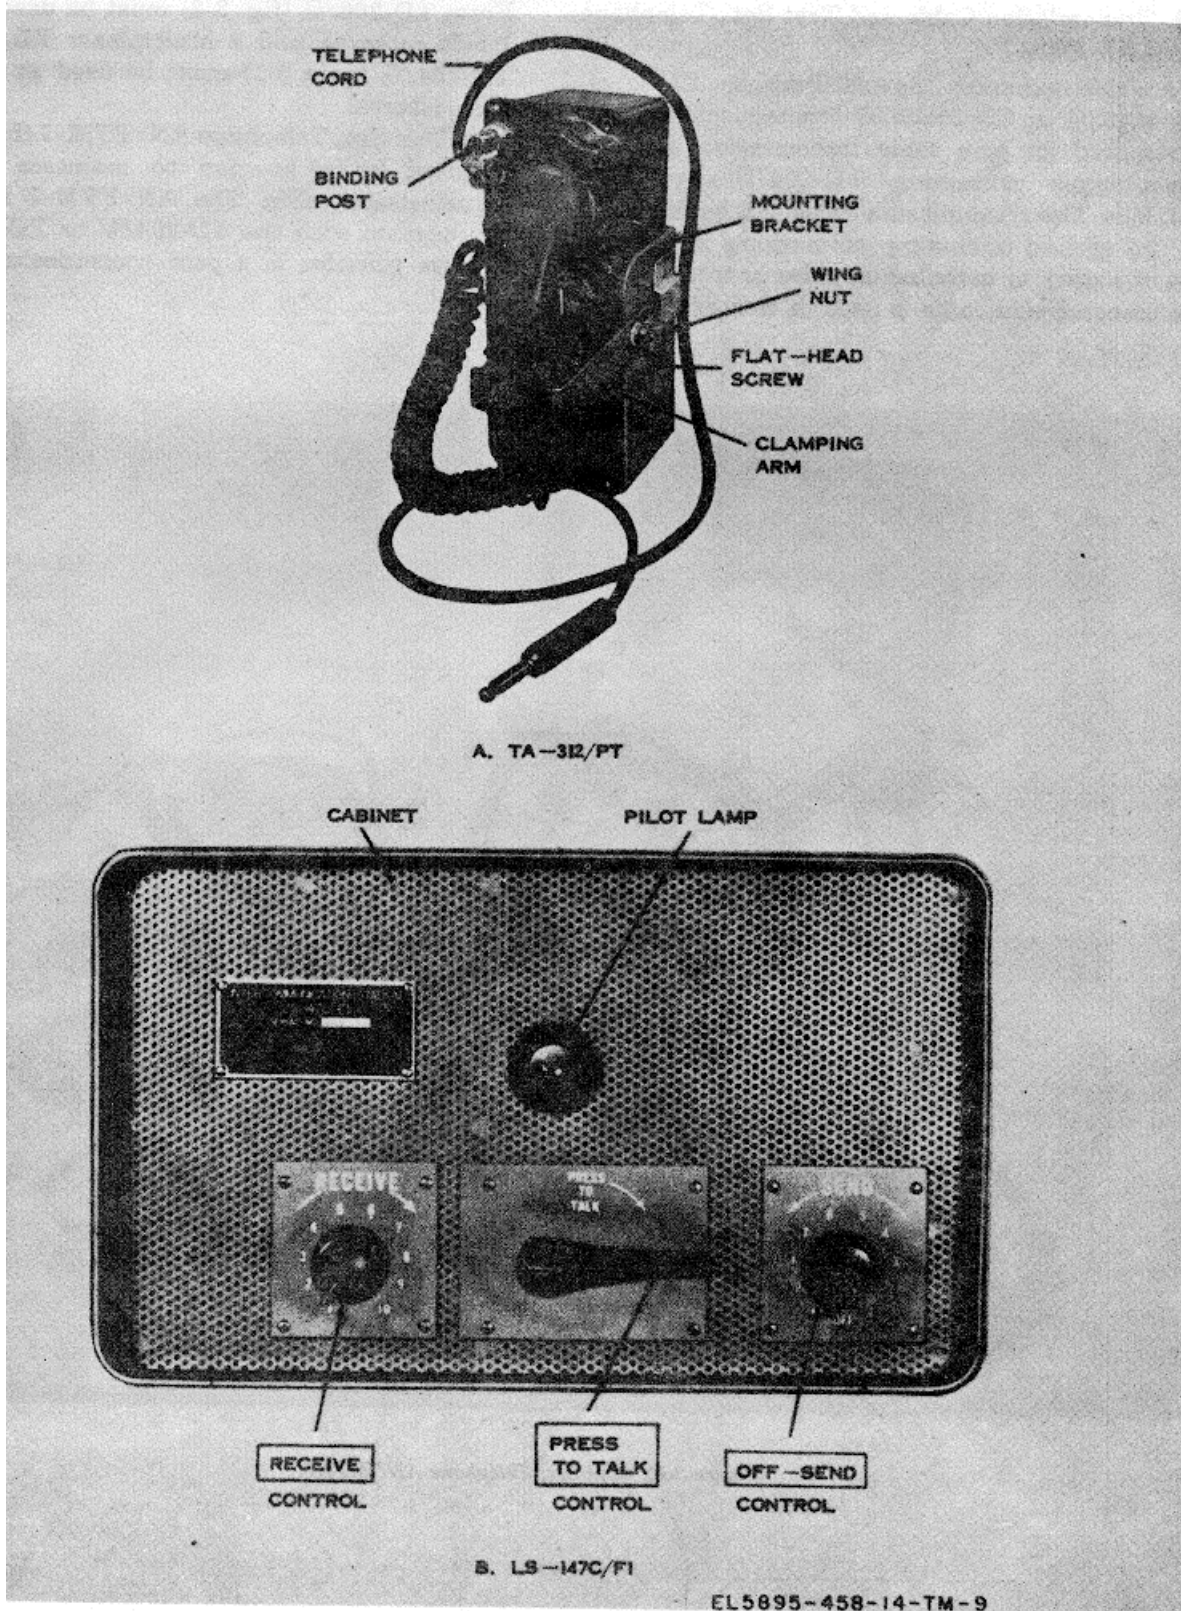

Figure 3-9. Telephone Set TA-312/PT and Intercommunication Station LS-147C/F1.
*a. Telephone Set Ta-312/PT.* The TS-312/PT (less carrying case is mounted as shown in A, figure 3-9. The telephone cord shown connected to
*b. Intercommunication Station LS-147C/FI.* The LS-147C/FI shown in B, figure 3-9 is a two-way voice communication facility. It can be used between assemblages (connected by field wire) or locations containing other LS-147C/FI's.